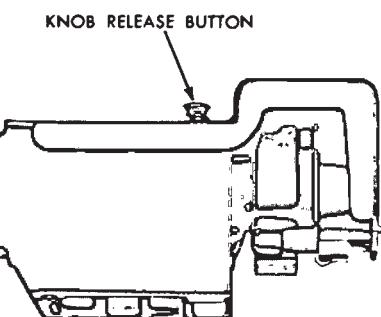

FIG. 6—Headlight Switch
A combination three-position lighting switch (Fig. 6), mounted at the lower left of the instrument panel, controls circuits to the headlights, parking lights, marker lights, taillights, license plate light, courtesy lights and instrument panel lights. An 18-ampere circuit breaker in the switch protects the headlight circuit. A 15-ampere circuit breaker in the switch protects the circuits for the taillights,
3. Turn the control knob to the full ON position. Reach up from underneath the instrument panel, and press the release button on the switch housing (Figs. 6 and 7). With the release button pressed in, pull the knob out of the switch. To gain access to the release button on Maverick vehicles equipped with air conditioning, disconnect the A/C left duct from the duct-to-register connector, loosen the two nuts that retain the left register to the utility shelf, and then remove the connector from the register. See Part 34-05 for illustrations.